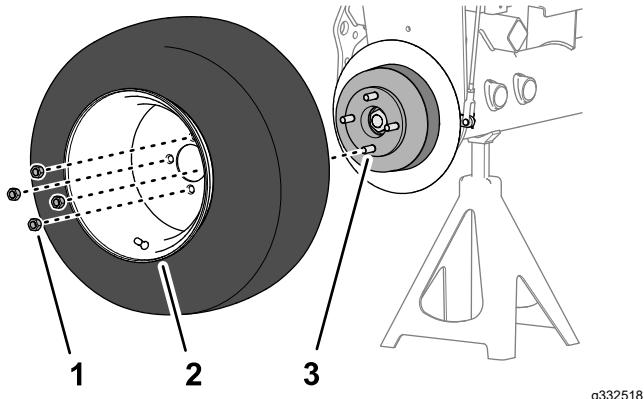

Figure 86
- 1. Assemble the wheel to the hub with the 4 lug nuts (Figure 86), and tighten the lug nuts by hand.